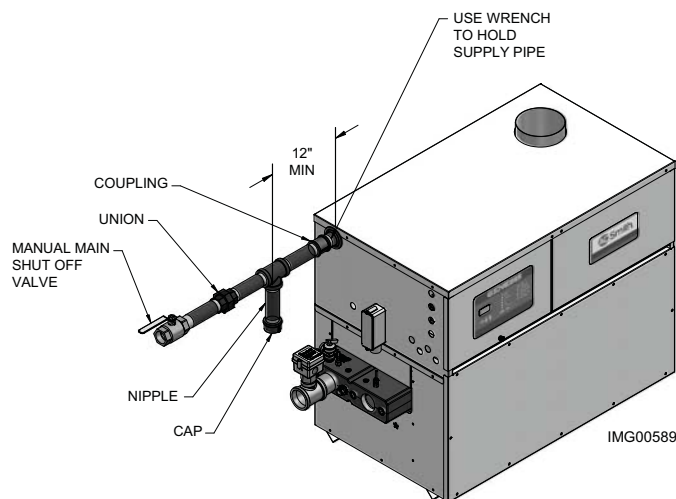

Figure 3-1_Gas Line Connection
5. Install a sediment trap in the supply line to the unit's gas inlet (see FIG. 3-1).